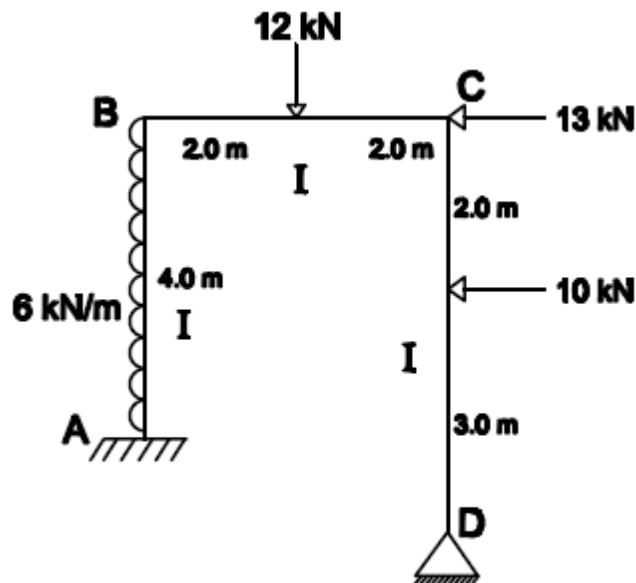

Figure 8
- 8 Analyse the following frame a [Figure.8] using stiffness Method. Also draw B.M.D. 14 M